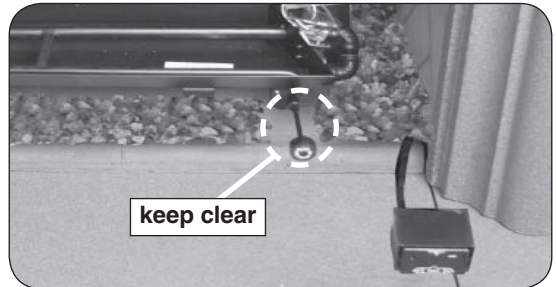

Fig. 12-2 Proper media placement
**Note:** DO NOT place any lava media on the burner system, behind it, or under the knob and extension rod (see Fig. 12-2).